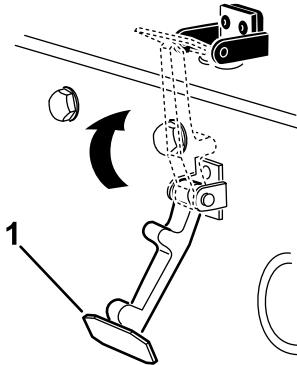

Figure 25
7. Hook the latch onto the hood-latch bracket (Figure 25).